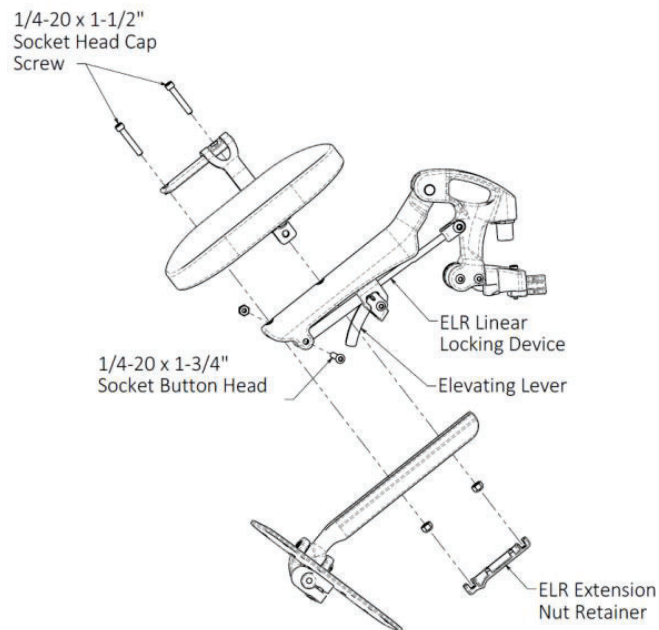

Figure 14.16: *Elevating Legrest Footrest Height adjustment*
- Loosen and remove the $\frac{1}{4}$ -20 x 1-3/4" Socket Button Head which holds the ELR's linear locking device, shown in figure 14.16.